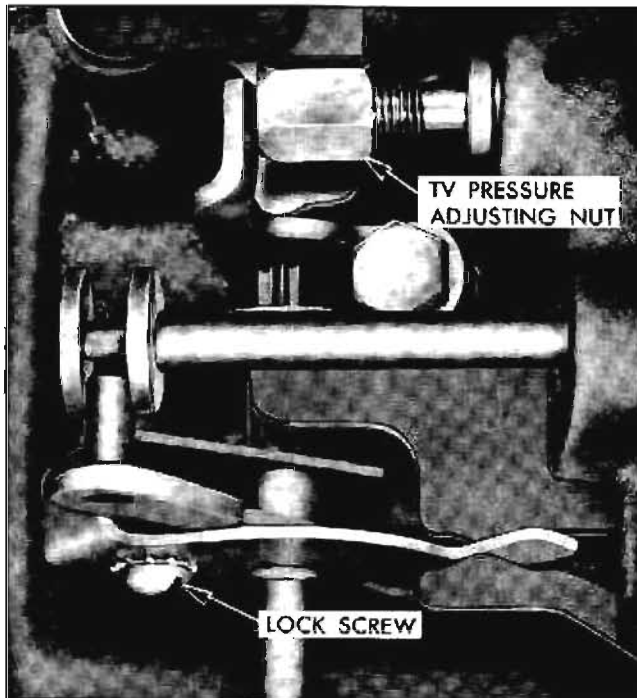

Fig. 7A-77 TV Pressure Adjusting Nut
Throttle valve pressure tests are of value in cases where the transmission shift points are not in accordance with the "Shift Point—MPH Chart." If pressures are not as prescribed, they may be raised or lowered by adjusting the position of the jam nut on the throttle valve assembly (Fig. 7A-77). To raise TV pressure 3 psi, back off the jam nut one (1) full turn. This increases the dimension from the jam nut to the throttle valve assembly stop. Conversely, tightening the jam nut one (1) full turn lowers TV pressure 3 psi. Smaller pressure adjustments can be made by partial turns of the jam nut. The end of TV adjusting screw has an Allen head so the screw may be held stationary while the jam nut is moved.